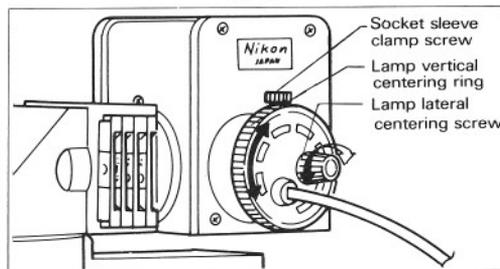
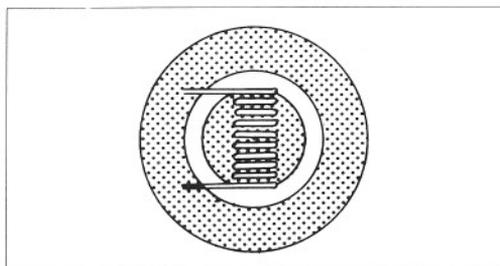

Fig. 28
Fig. 29
- 7) After releasing the socket sleeve clamp screw, as shown in Fig. 28, manipulate the lateral centering screw and vertical centering ring to bring the filament image to the center, as shown in Fig. 29.
- 6) After releasing the socket sleeve clamp screw, as shown in Fig. 28, manipulate the lateral centering screw and vertical centering ring to bring the filament image to the center, as shown in Fig. 29.